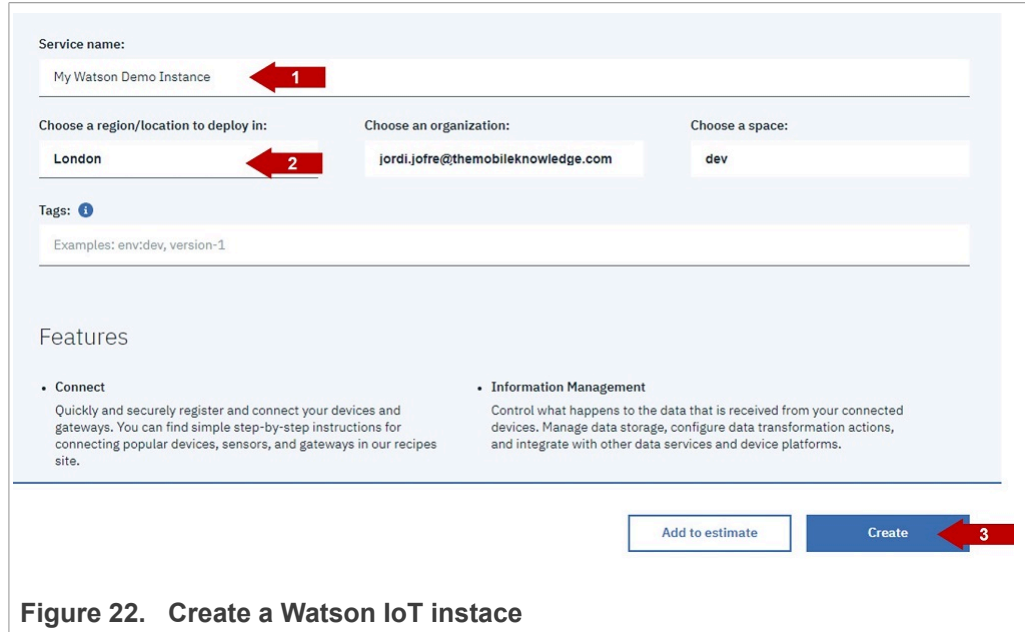

Figure 22. Create a Watson IoT instance
- 4. To create a Watson IoT instance, write a *Service name*, *Choose a region* and click **Create** as shown in Figure 22: